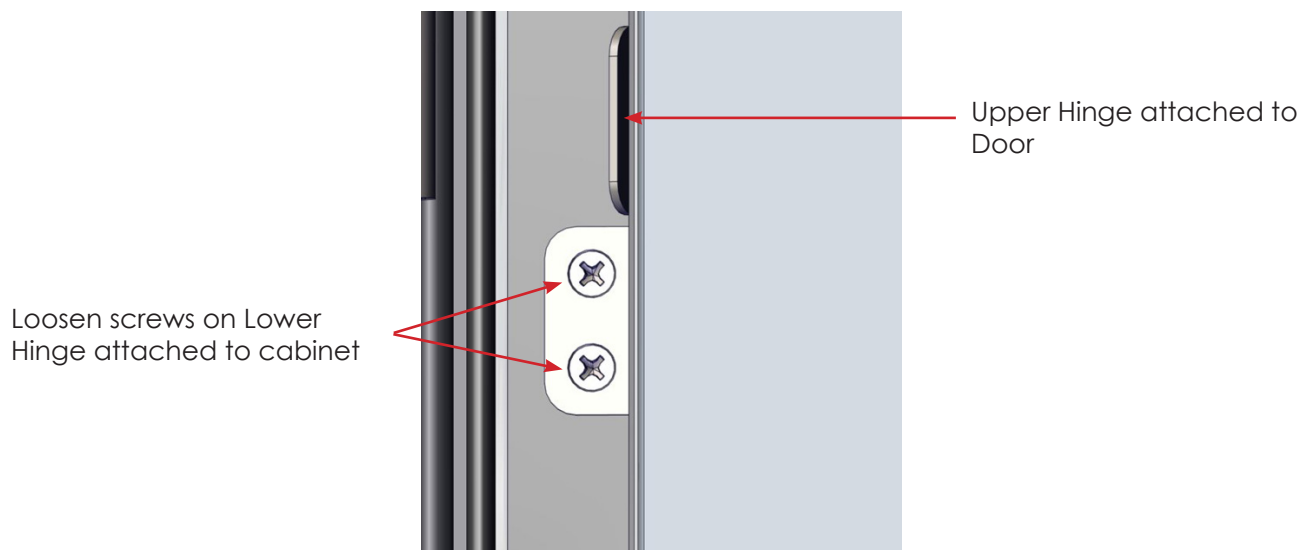

Fig. 18: Loosen Hinge Screws
1. Open one door fully and loosen the screws on the hinges that attach to the sides of the cabinet (2 screws per hinge) (Fig. 18)